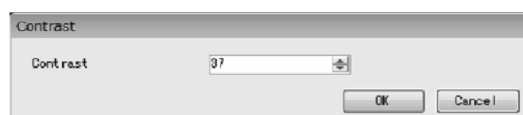

Fig.95
- ① Click "Setup (S)" > "LCD" > "Contrast" in the menu.
② The following window will be displayed (Fig. 95). Set the contrast of displayed dots here.